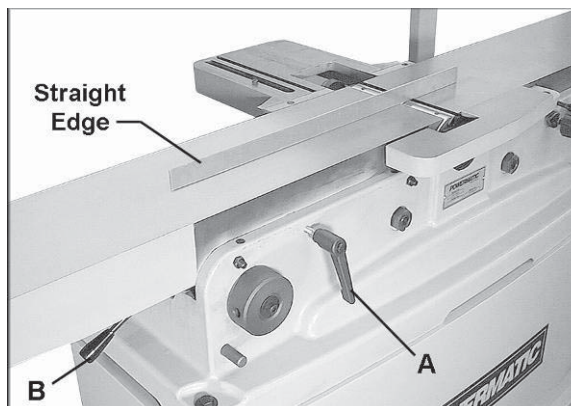

Figure 23
4. Loosen the locking handle on the outfeed table (see A, Figure 23). Use the lifting handle (B, Figure 23) to raise the outfeed table higher than the cutterhead.
2. Raise the outfeed table by loosening the locking handle (A, Figure 23) and using the lever (B).
3. Place a straight edge upon the outfeed table and extending over the center of the cutterhead as shown in Figures 23 and 24.
6. Lock the outfeed table at that height by tightening the locking handle (A, Figure 23).